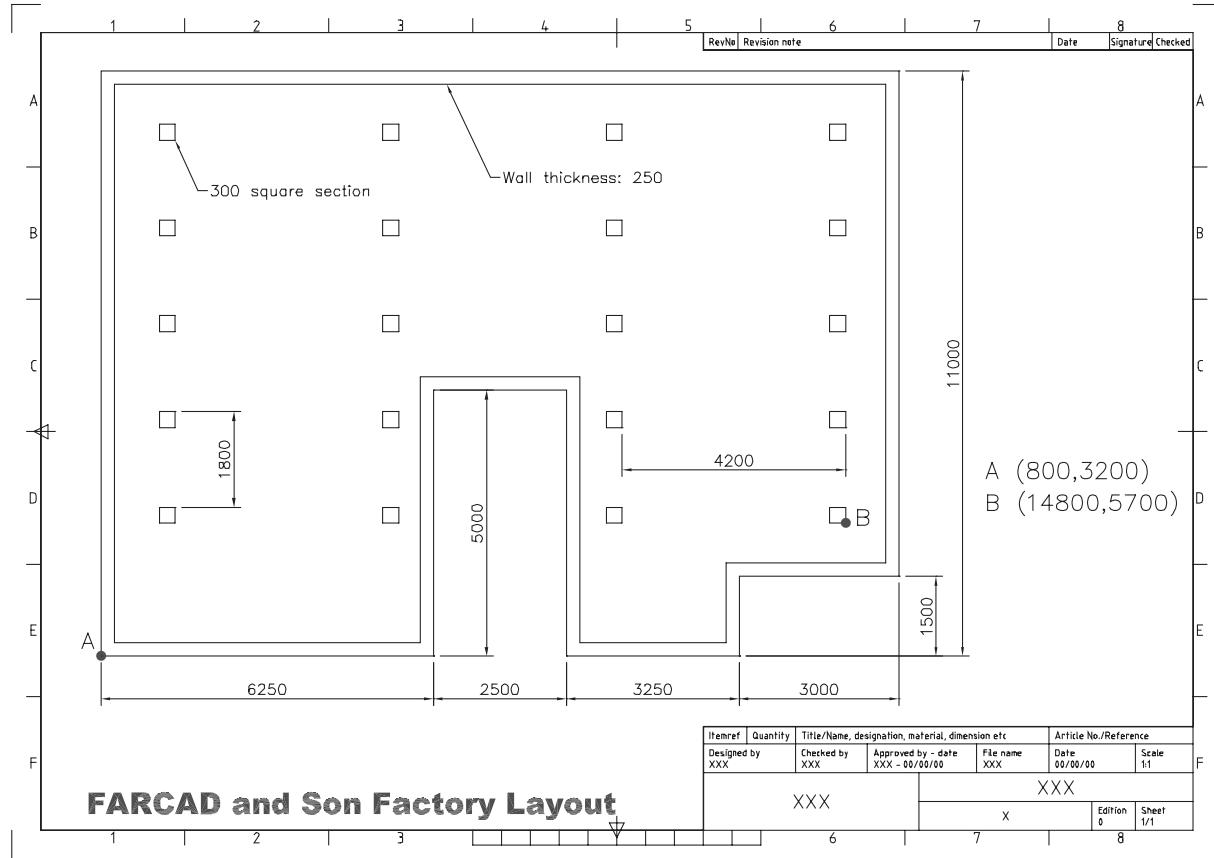

Figure 26.2 A large-scale drawing.
- a) refer to Figure 26.2 and complete the factory plan layout using the sizes as given